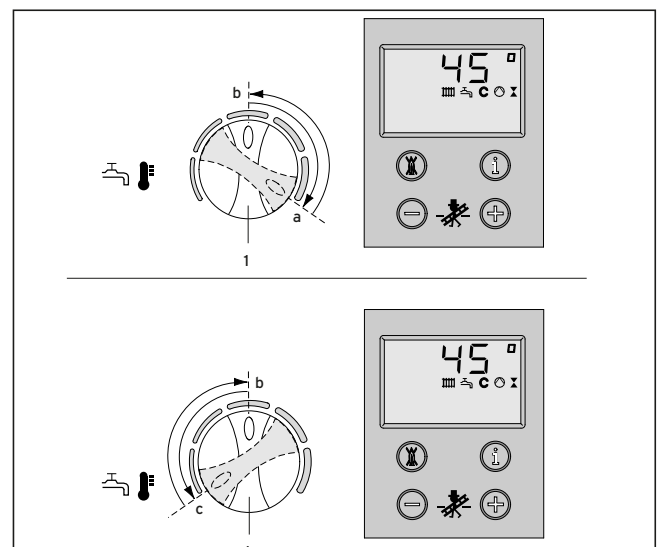

Fig. B.6 Warmstart operation (ecoMAX 800 series only)
- The warmstart system is activated by turning the hot water temperature control knob (1) clockwise to position a (see fig.B.6). Now select the required temperature, e.g. setting b